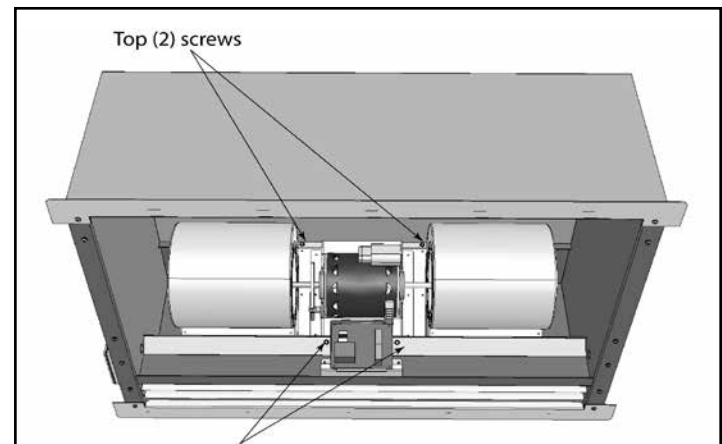

Figure 9
6. Using a 5/16" hex driver, loosen and remove the (4) self drilling screws that hold the blower plate to the frame of the unit. Remove the two screws at the top of the product last, as after they are removed, the module will be free to drop out of the cabinet. **See Figure 9** for location of all screws.